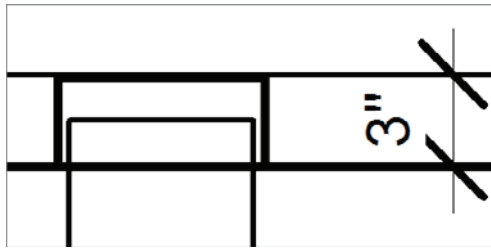

FIGURE 12.67 Offsetting the thick lines
10. Trim the bottoms of the thick vertical lines to the 3" horizontal line, as shown in Figure 12.67.